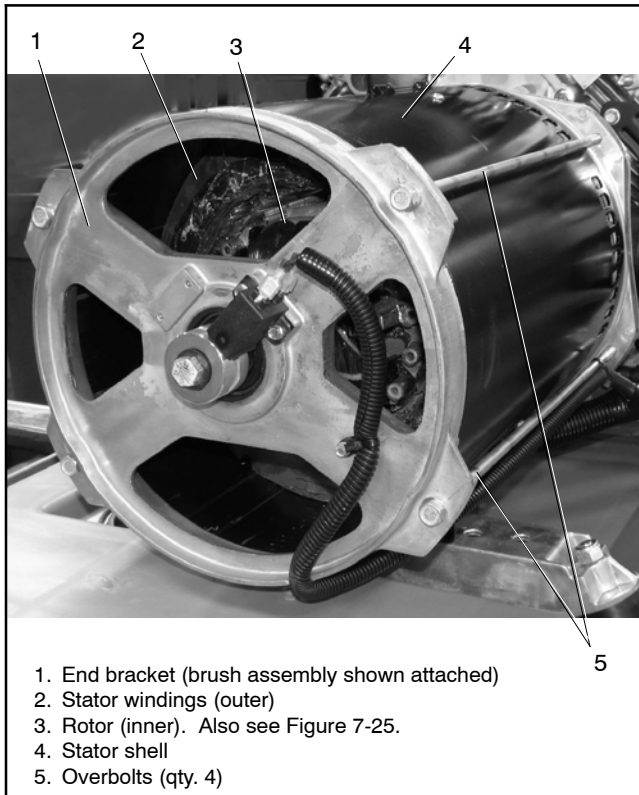

Figure 7-24 Alternator Assembly
24. Remove the alternator overbolts and centering washers. See Figure 7-24.
27. Carefully pull the stator from the rotor. See Figure 7-24.